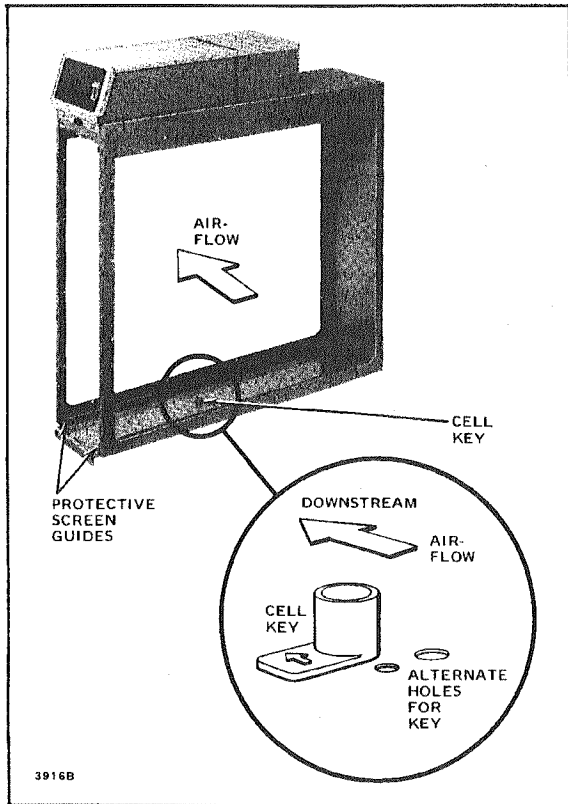

FIG. 19—POSITION OF CELL KEY DETERMINES ORIENTATION OF CELL. INSTALL THE CELL KEY ON THE UPSTREAM SIDE OF THE CABINET.
2. Remove the screw holding the cell key in place (Fig. 19).
2. Check for proper orientation of the electronic cells and protective screens. Airflow arrows must point downstream (Fig. 19). Protective screens must be on the upstream side of the electronic cells. Cell handles should be on the outside of the cells.